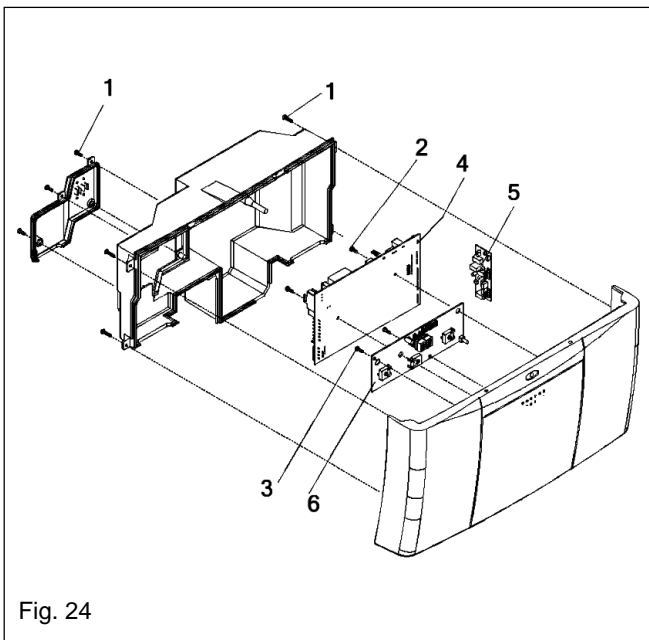

Fig. 24
6.12 PRINTED CIRCUIT BOARD (see fig. 24)